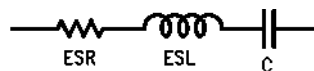

Figure 38. Simple Model of a Real Capacitor
**CAPACITOR EQUIVALENT SERIES RESISTANCE (ESR)** The purely resistive component of a real capacitor's impedance (see Figure 38). It causes power loss resulting in capacitor heating, which directly affects the capacitor's operating lifetime. When used as a switching regulator output filter, higher ESR values result in higher output ripple voltages.
**EQUIVALENT SERIES INDUCTANCE (ESL)** The pure inductance component of a capacitor (see Figure 38). The amount of inductance is determined to a large extent on the capacitor's construction. In a buck regulator, this unwanted inductance causes voltage spikes to appear on the output.